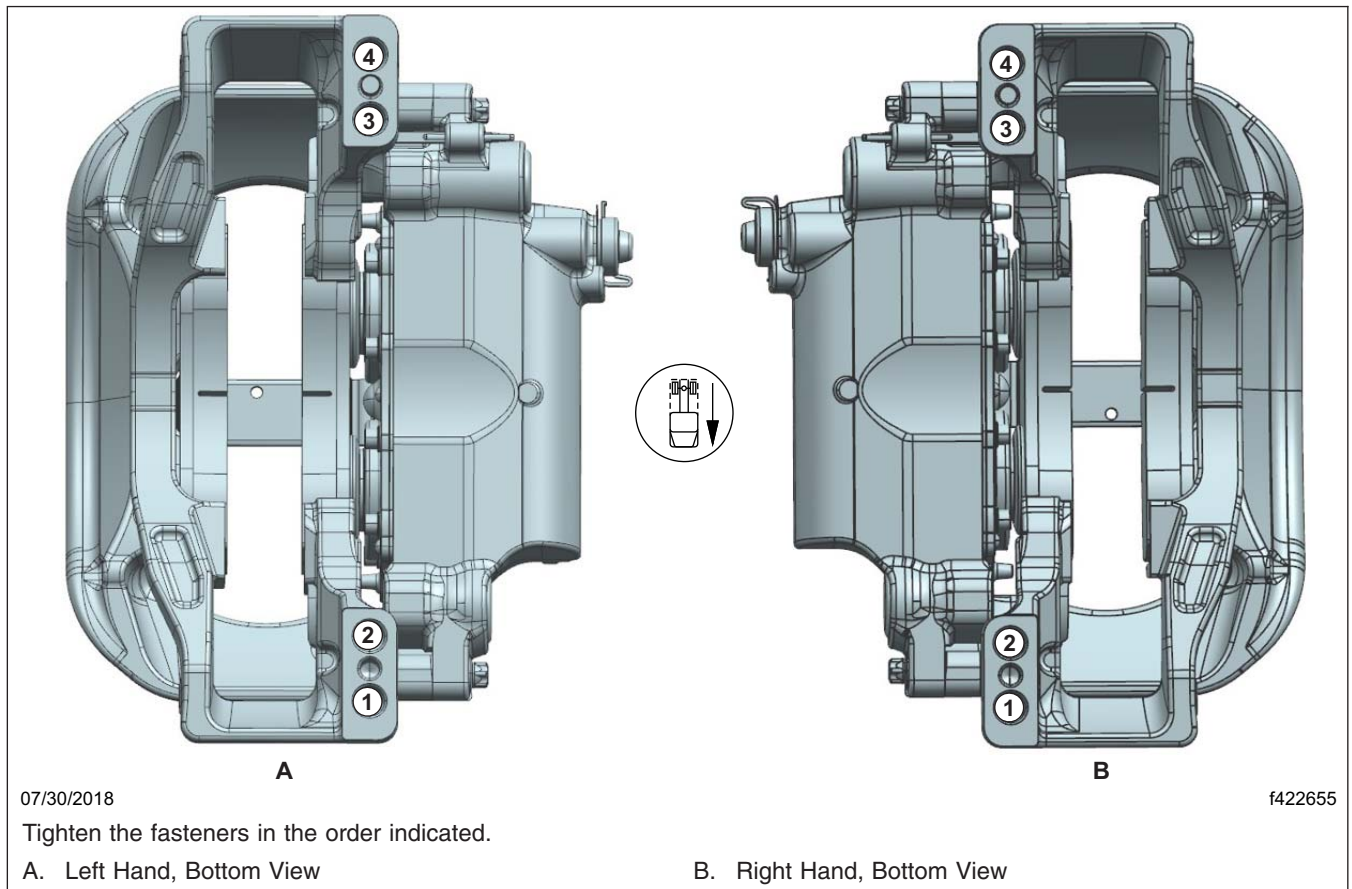

Fig. 8, Meritor Radial Mounted Caliper Tightening Pattern
4. Set a torque wrench to 350 lbf-ft (475 N-m) and tighten the caliper mounting bolts following the tightening pattern shown in **Fig. 8**. If they do not turn, no further work is needed. If they turn, take the vehicle to an authorized Freightliner dealer to have all of the caliper bolts on that wheel end replaced.